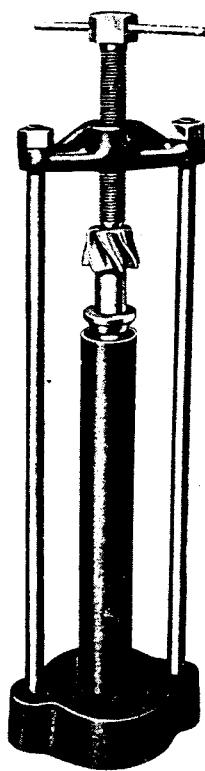

FIG. 6.
- Mount bottom bearing inner cone on pinion shaft using Service Tool FT.36A with adapter FT.36B. Fig. 6.